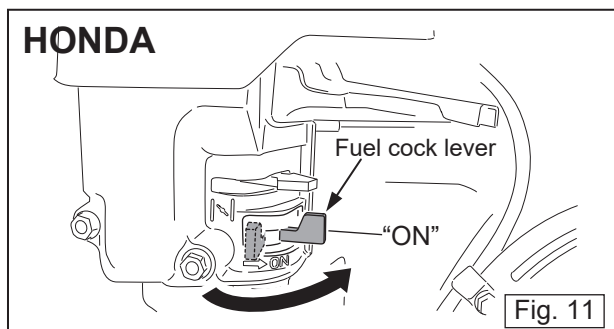

Fig. 11
- 1 Move the fuel cock lever to the "ON" position. (Fig. 11)